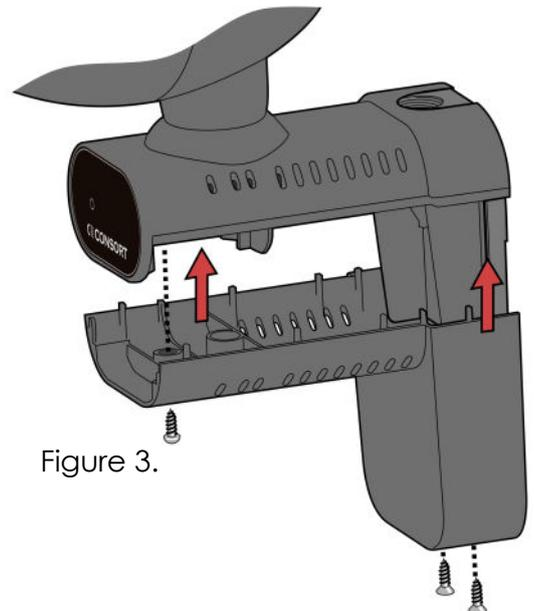

Figure 3.
**Step 3:** Attach the bottom bracket and secure using the three remaining screws as shown in Figure 3.